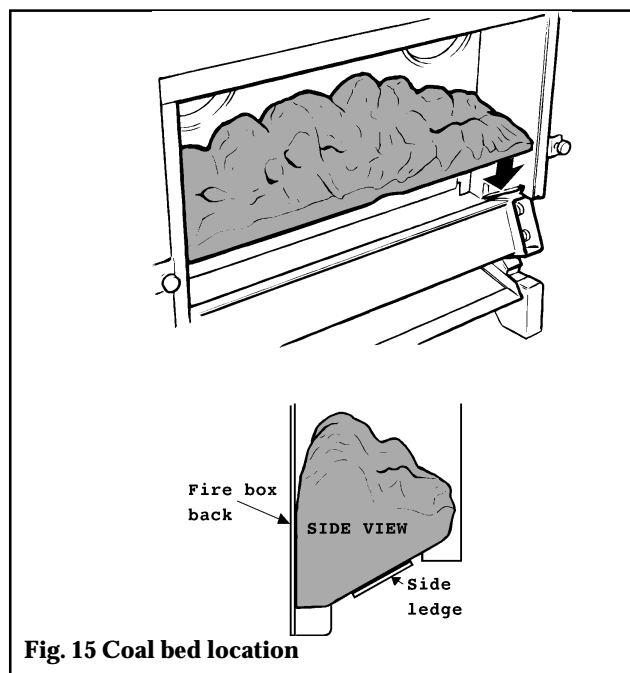

Fig. 15 Coal bed location
4.4.1. Place the coal bed in position. Make sure that the coal rests on the ledges at the sides of the firebox and that its back face is touching the back of the firebox.. (see fig.15).
- 8.3.3. Replace in the reverse order. When replacing, make sure that the coal rests on the ledges at sides of the firebox and that its back face is touching the back of the firebox (see fig.15 in installation section).